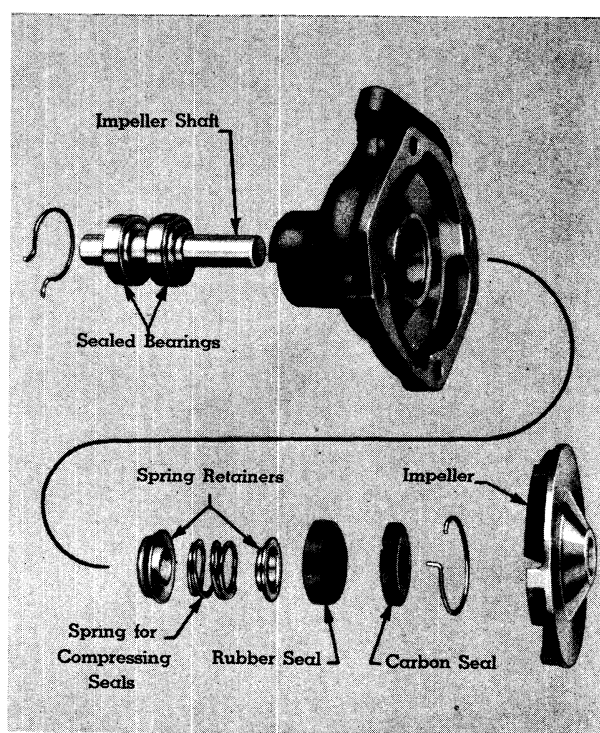

Fig. 31. Water Pump — Disassembled
4. Remove lock ring at rear, and take out carbon ring, rubber seal, spring and retainers. Note carefully order in which these pump parts are disassembled so that reassembly may be performed correctly. (See Figure 31.)